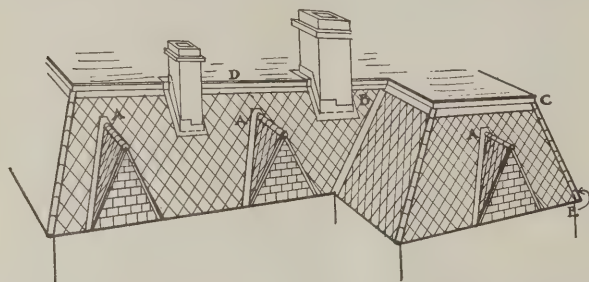
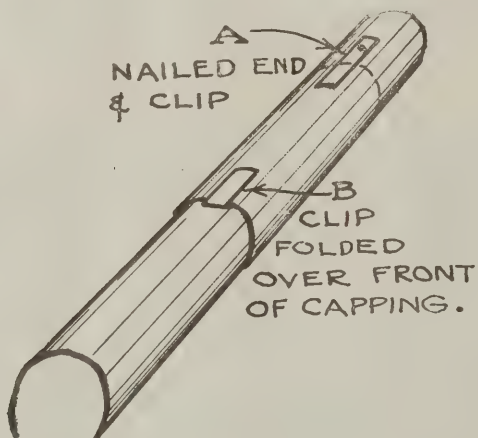

Fig. 12. Mansard roof laid with asbestos shingles, diamond pattern
Fig. 14. Hip capping used with asbestos shingles
*Asbestos Diamond Shingles.*—The roof shown in Fig. 12 illustrates the front covering of a public building laid by the writer several years ago, and includes nearly all the more difficult conditions encountered in roofing work. The chimneys, valley and deck are treated in the manner described under their several captions, while the hips may be finished with the capping E, made of the same material as the roof, shown in detail in Fig. 14. These are made
strip of metal back over the front of the capping. The top of valleys at A (Fig. 12) on each side of the gable ends is extended well above the comb, and the valley end of comb metal covered for several inches, at least a sufficient distance to prevent